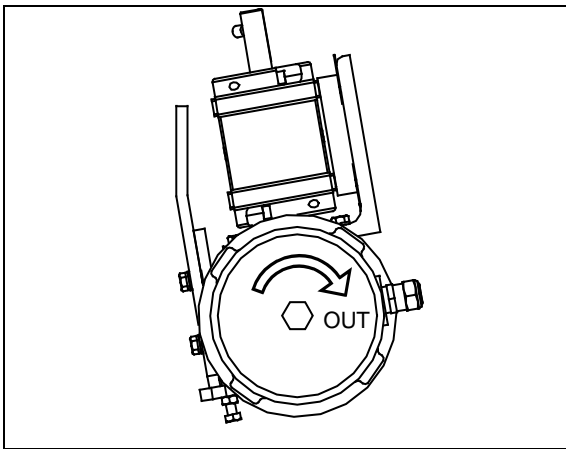
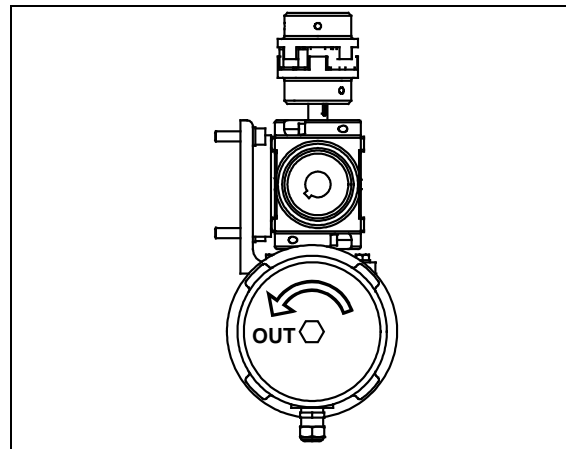

FIGURE 23 : DIRECTION OF ROTATION FOR EXTENDING (FRONT)
FIGURE 24 : DIRECTION OF ROTATION FOR EXTENDING (REAR)
6. Rotate the motor with a manual ratchet or any power drill until the slide-out comes to its full opened position (refer to figure 23 for the front slide-out and to figure 24 for the rear slide-out). **Slow down on the opening speed as the slide-out approaches its opened position, in order not to overshoot it, which may damage the mechanism.**